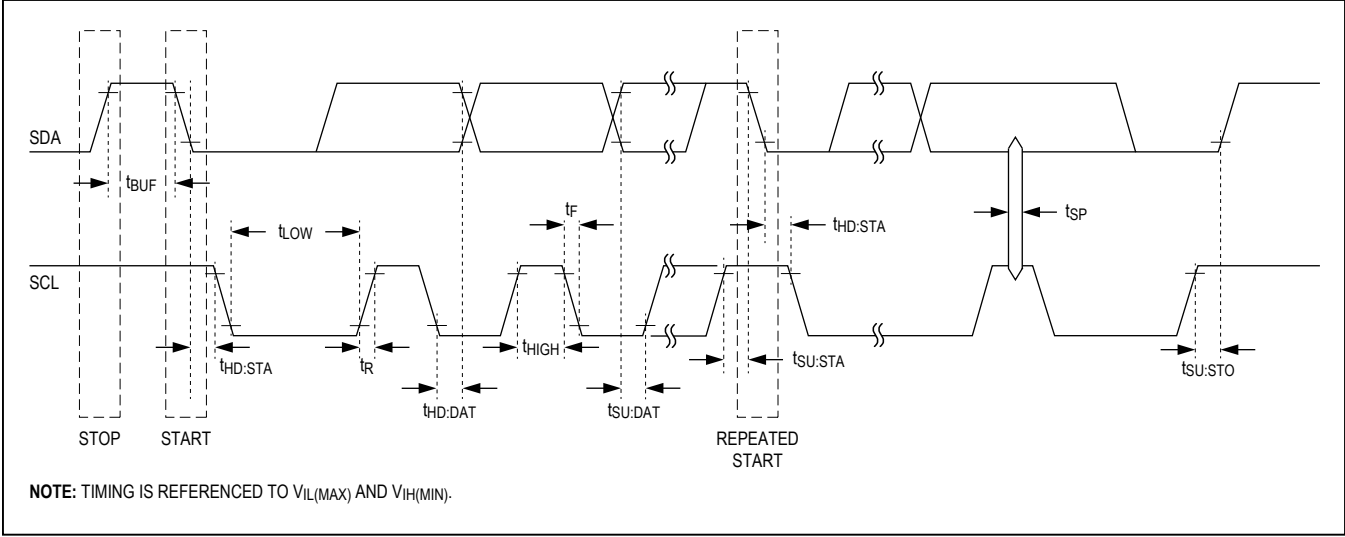

Figure 1. I2C Timing
**AC Electrical Characteristics**(VCC = MIN to MAX, TA = -40°C to +85°C, unless otherwise noted.) (Note 2, Figure 1)
**AC Electrical Characteristics (continued)**(VCC = MIN to MAX, TA = -40°C to +85°C, unless otherwise noted.) (Note 2, Figure 1)